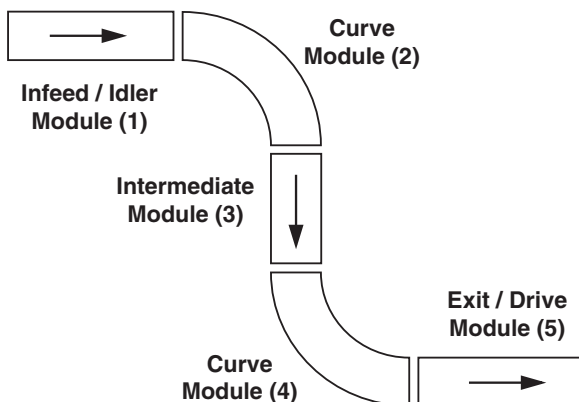

Figure 7
- Position the frame sections in the correct order (**Figure 7**).